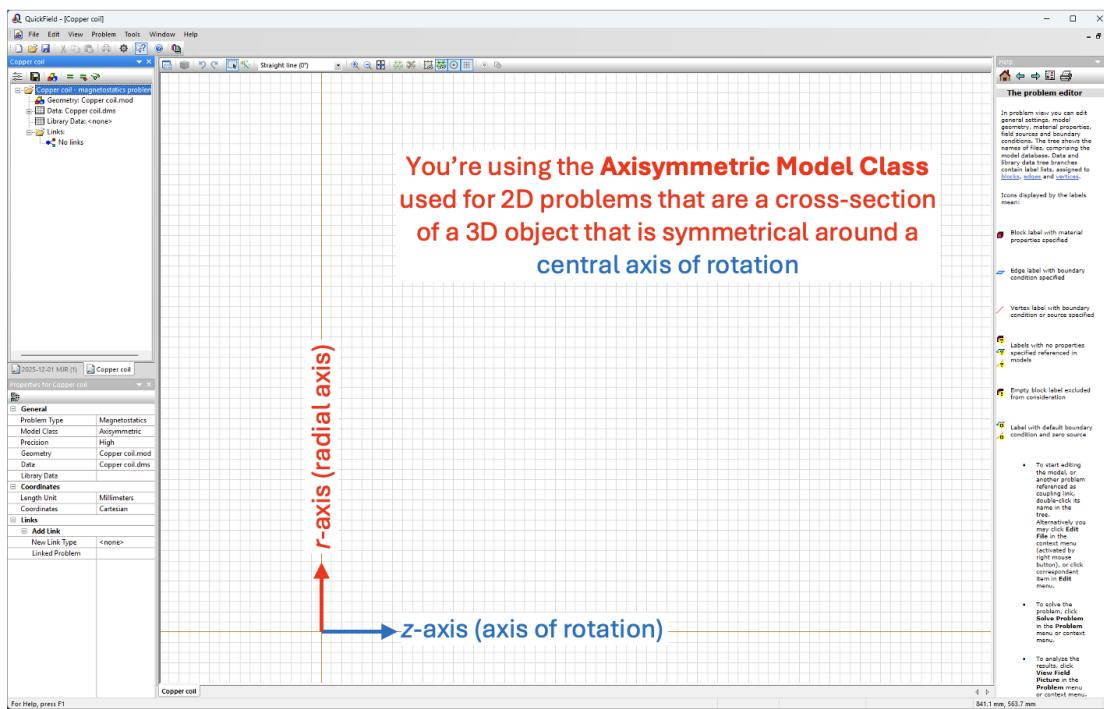

Figure 2: A newly opened project in QuickField showing the orientation of the axes.
5. The model plane will now appear in the application window (see Figure 2). By setting "Axisymmetric" in the previous step you told QuickField you are going to draw a 2D cross-section of a 3D object that is symmetrical about a central axis of rotation. Using the appropriate symmetry of the object reduces model complexity and computational resource requirements – it simplifies the model.